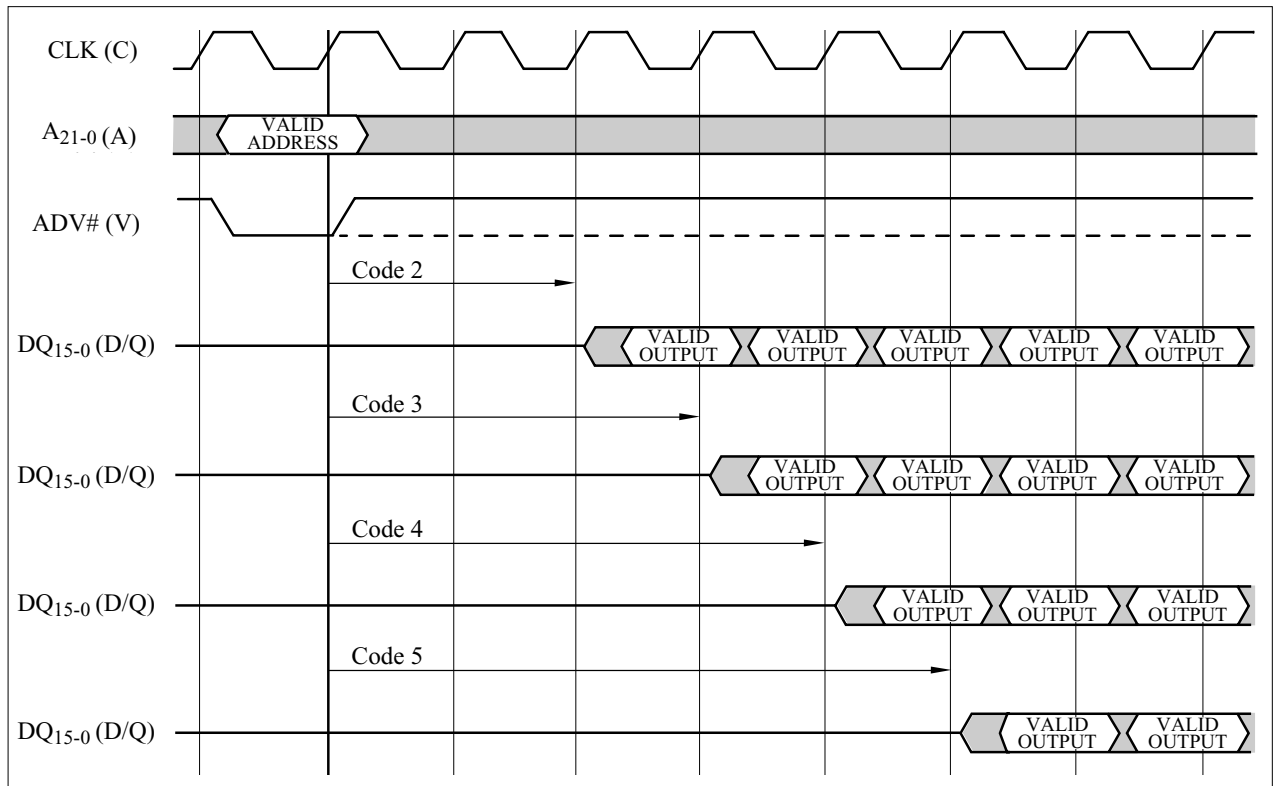
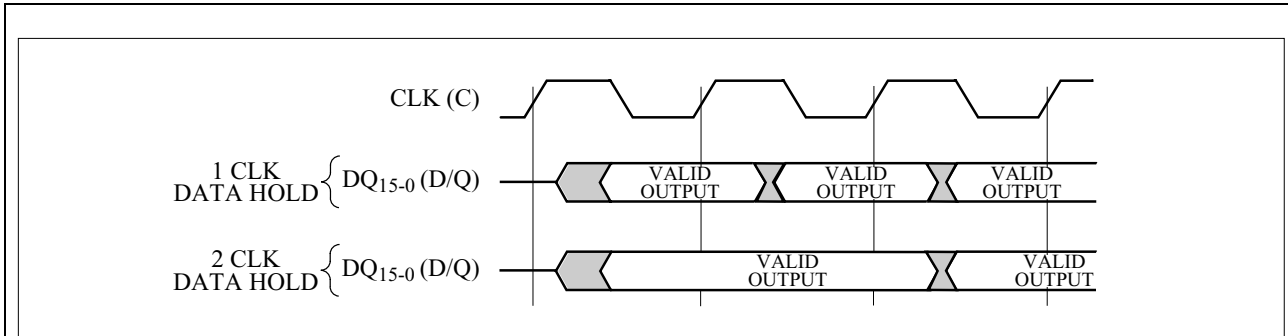

Figure 4. Frequency Configuration
Figure 5. Data Output Configuration
<p>RCR.15 = READ MODE (RM) 0 = Synchronous Burst Reads Enabled 1 = Asynchronous Reads Enabled (Default)</p> <p>RCR.14 = RESERVED FOR FUTURE ENHANCEMENTS (R)</p> <p>RCR.13-11 = FREQUENCY CONFIGURATION (FC2-0) 000 = Code 0 reserved for future use 001 = Code 1 reserved for future use 010 = Code 2 011 = Code 3 100 = Code 4 101 = Code 5 110 = Code 6 reserved for future use 111 = Code 7 reserved for future use (Default)</p> <p>RCR.10 = WAIT SIGNAL POLARITY (WT) 0 = WAIT signal is active low 1 = WAIT signal is active high (Default)</p> <p>RCR.9 = DATA OUTPUT CONFIGURATION (DOC) 0 = Hold Data for One Clock 1 = Hold Data for Two Clocks (Default)</p> <p>RCR.8 = WAIT CONFIGURATION (WC) 0 = WAIT Asserted During Delay 1 = WAIT Asserted One Data Cycle Before Delay (Default)</p> <p>RCR.7 = BURST SEQUENCE (BS) 0 = Intel Burst Order 1 = Linear Burst Order (Default)</p> <p>RCR.6 = CLOCK CONFIGURATION (CC) 0 = Burst Starts and Data Output on Falling Clock Edge 1 = Burst Starts and Data Output on Rising Clock Edge (Default)</p> <p>RCR.5-4 = RESERVED FOR FUTURE ENHANCEMENTS (R)</p> <p>RCR.3 = BURST WRAP (BW) 0 = Wrap Burst Reads within Burst Length set by RCR.2-0 1 = No Wrap Burst Reads within Burst Length set by RCR.2-0 (Default).</p> <p>RCR.2-0 = BURST LENGTH (BL2-0) 001 = 4 Word Burst 010 = 8 Word Burst 011 = Reserved for future use 111 = Continuous (Linear) Burst (Default)</p>	<p style="text-align: center;">NOTES:</p> <p>Read configuration register affects the read operations from main and parameter blocks. Read operations for status register, query code, identifier codes, OTP block and device configuration codes support single read cycles.</p> <p>RCR.14, RCR.5 and RCR.4 bits are reserved for future use and should be masked out when checking the read configuration register.</p> <p>Refer to Frequency Configuration in Table 13 and Figure 4 for information about the frequency configuration RCR.13-11.</p> <p>Undocumented combinations of bits RCR.13-11 are reserved for future implementations and should not be used.</p> <p>Data is not ready when WAIT is active.</p> <p>Refer to Figure 5 for information about Data Output configuration RCR.9.</p> <p>Refer to Table 14 for information about Burst Wrap configuration RCR.3.</p> <p>In the asynchronous page mode, the burst length always equals 8 words.</p> <p>All the bits in the read configuration register are set to "1" after power-up or device reset.</p> <p>When the bit RCR.15 is set to "1", other bits are invalid.</p>